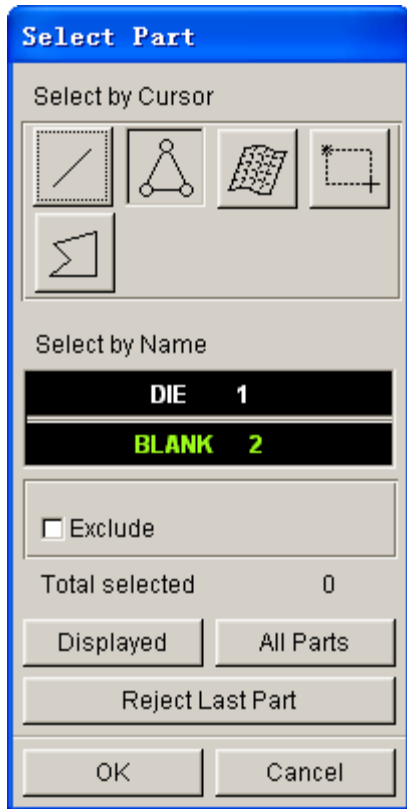

Figure 5.27 Select Part dialog box
3. Click **Add Part...** to select the **blank** illustrated in Figure 5.27.